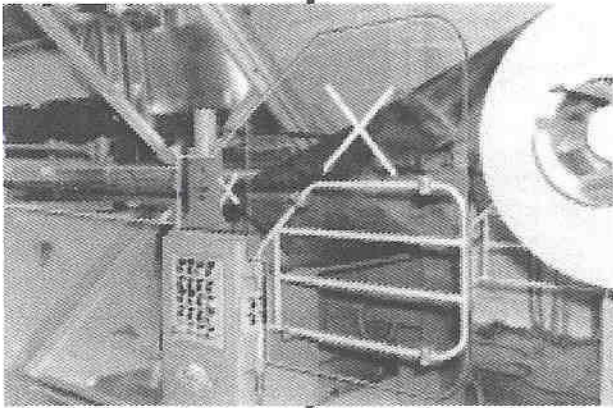

Fig. 6
**Fig. 6** Steel reinforced transparent plastic hinged safety gate on front and rear side restricts access to sharp strip edge between reel and pinch roll stand as well as pinch roll nip points.